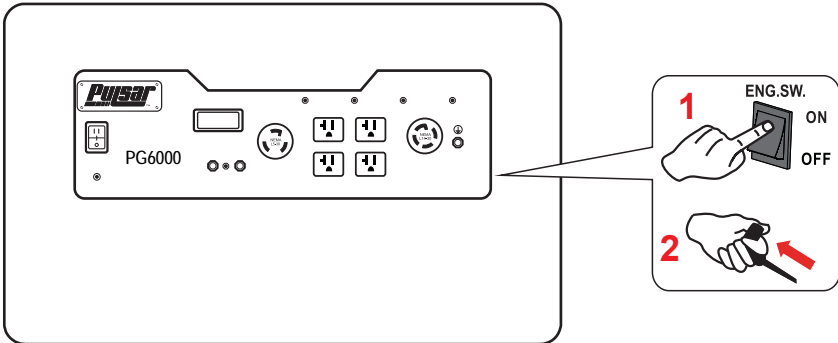

Fig 8 Recoil Start
- For manual start, turn the engine ON/OFF switch to the “ON” position. Pull the recoil handle (starter cord) slowly until resistance is felt, then pull rapidly. (See fig 8)